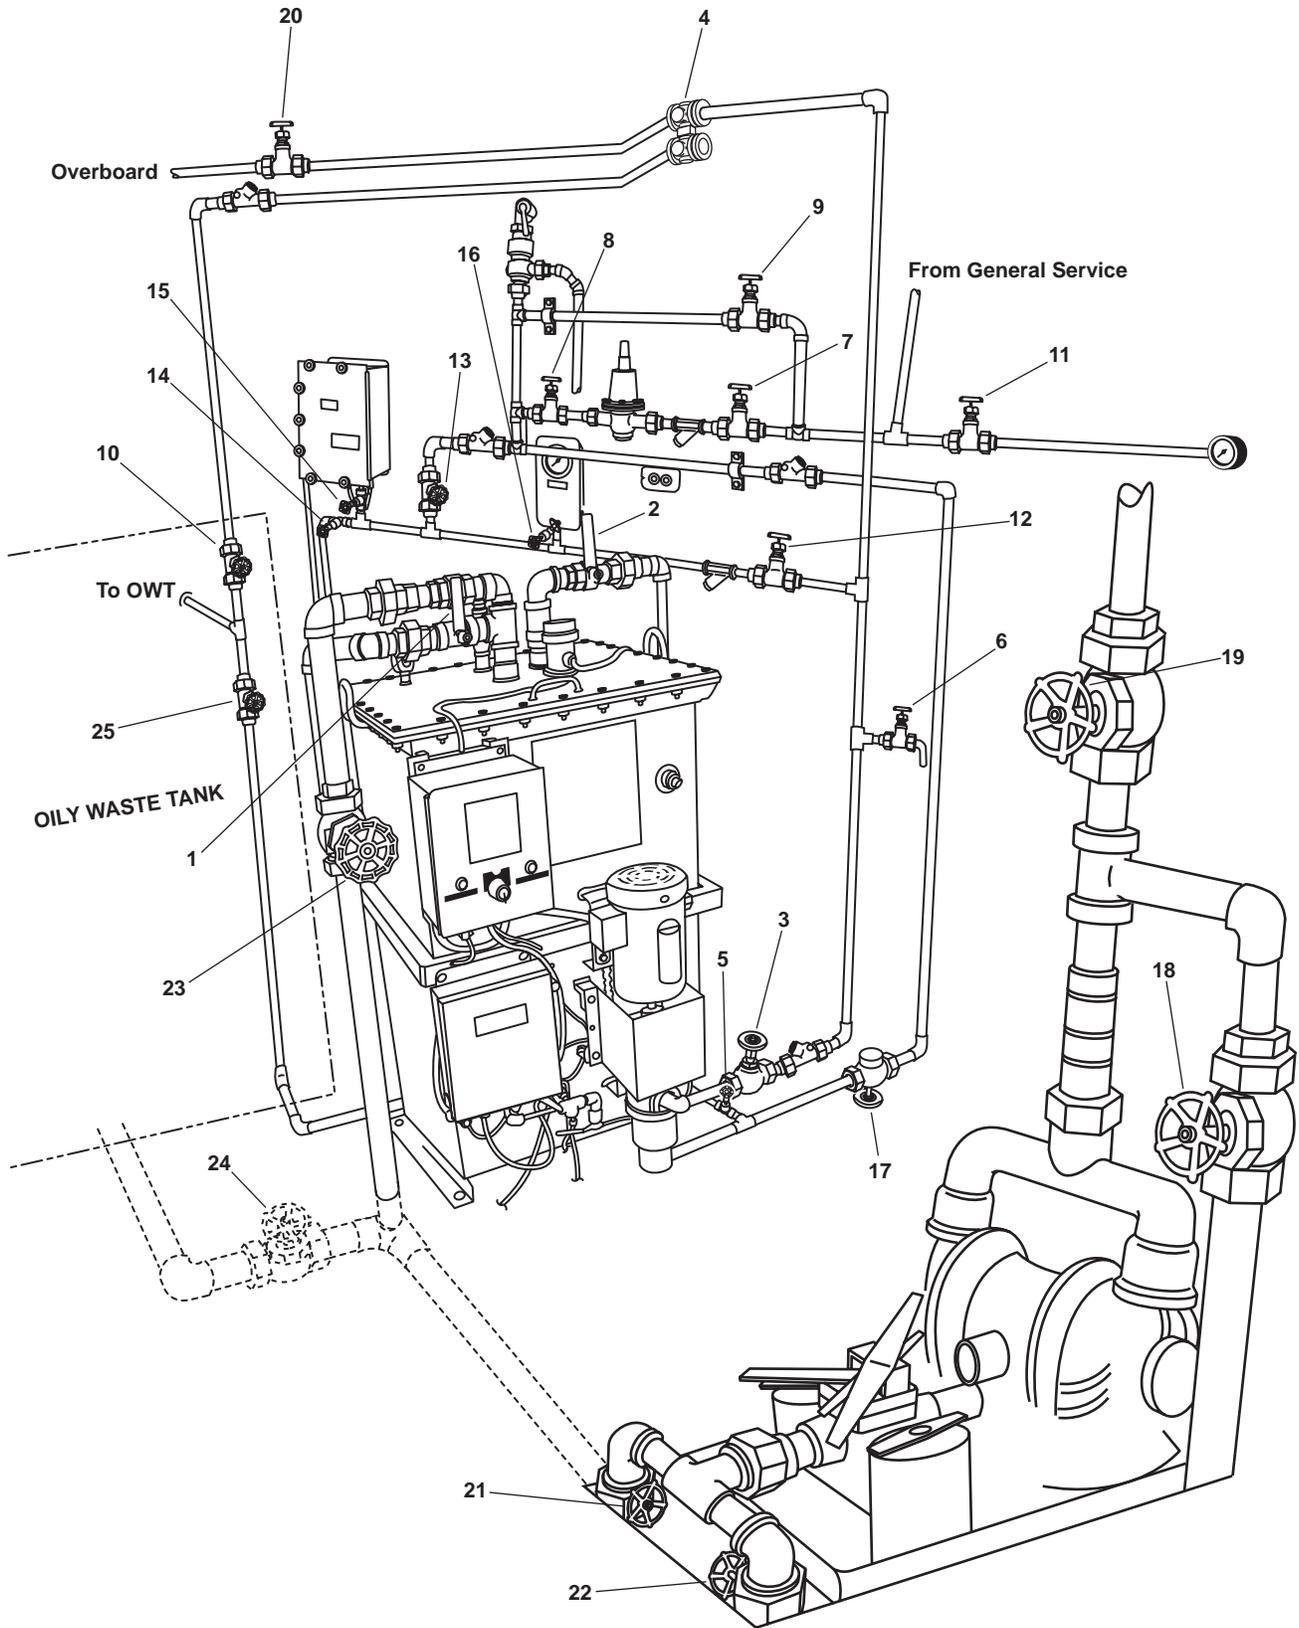

Figure 3. OWS, OB, and OCM Piping
3. Align the OWS, the Oily Bilge (OB), and OCM valves as indicated in table 1 and figure 3.